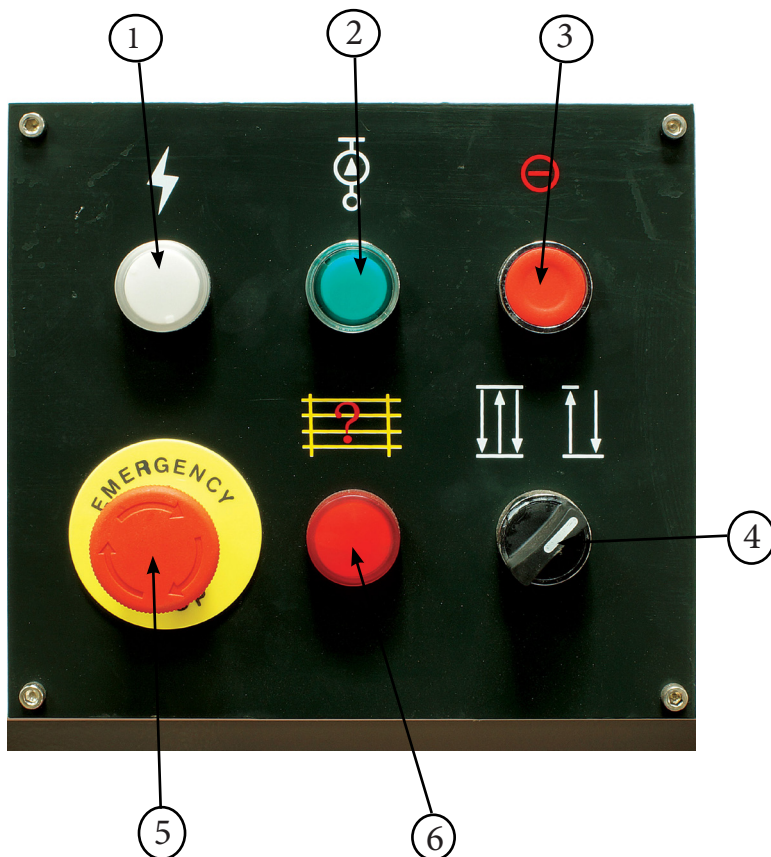

Fig 1.
1. Switch the isolating switch on (Fig 1.) The "Power On Light" ① (Fig.2) will be illuminated.